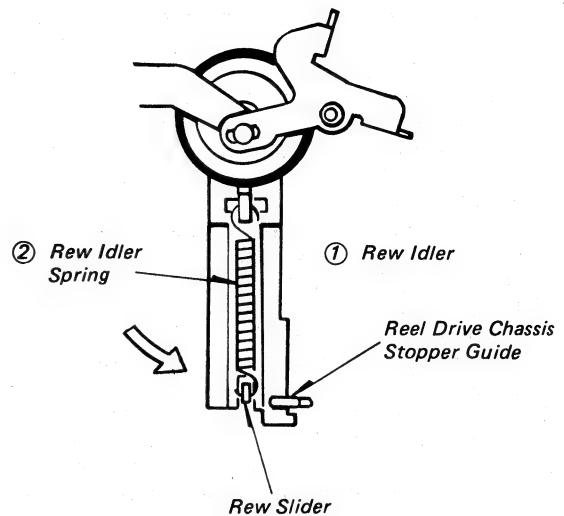

Fig. 5-45 Rew Idler Removal.
5-2-23 Replacing the Rewinding Idler (see Figs. 5-45, -46)
4. Unhook the Rew Idler Spring ② on the Rew idler ①.
5. Take out the Rew idler ① as shown in Fig. 5-45.